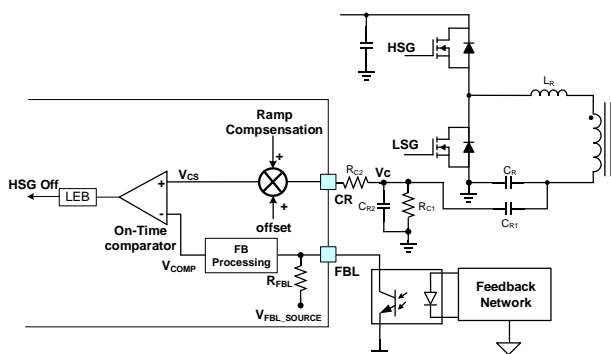

Figure 27: LLC Current Mode Control Block Diagram
Figure 27 shows the control block diagram of the half-bridge (HB) LLC. The on-time comparator determines the HSG on time by comparing the voltage derived from the current sense (CR) with V_{COMP} . V_{COMP} is generated from the feedback voltage on an optocoupler (FBL).